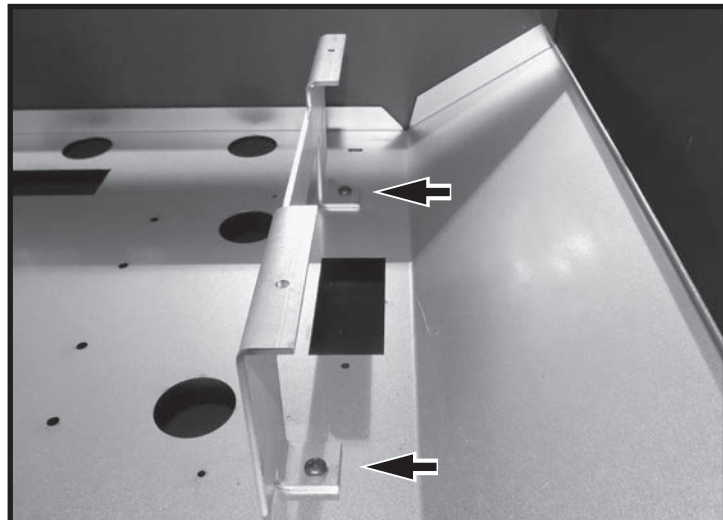

Figure 6: Securing outer leg on right hand side secondary floor panel.
5. Place the other outer leg on the right hand secondary floor panel. Be sure to secure this leg in the orientation shown and secure to the set of holes furthest to the right (Figure 6).